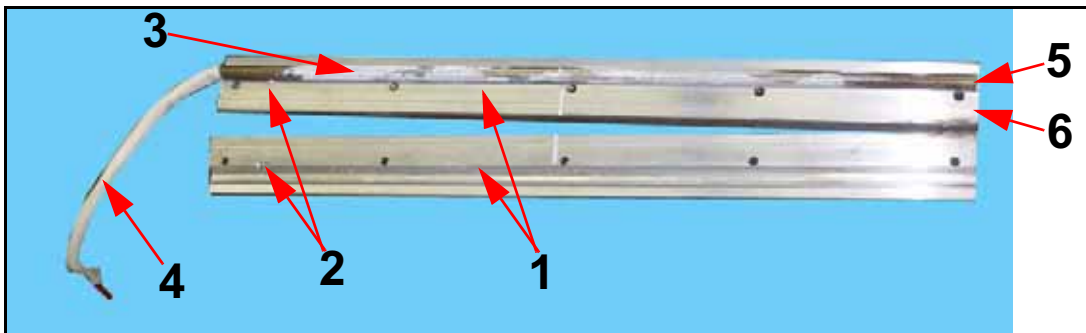

Figure 7-37. Heater Element Placement
- 11** Place the seal bars (1 in Figure 7-37) on table and orient them so that the heater element set screw holes (2) are to the left.
- 12** Place the heater element (3) in the bar so that the cable (4) is to the left and the blunt end (5) is flush or slightly less than flush with the end (6) of the bar.